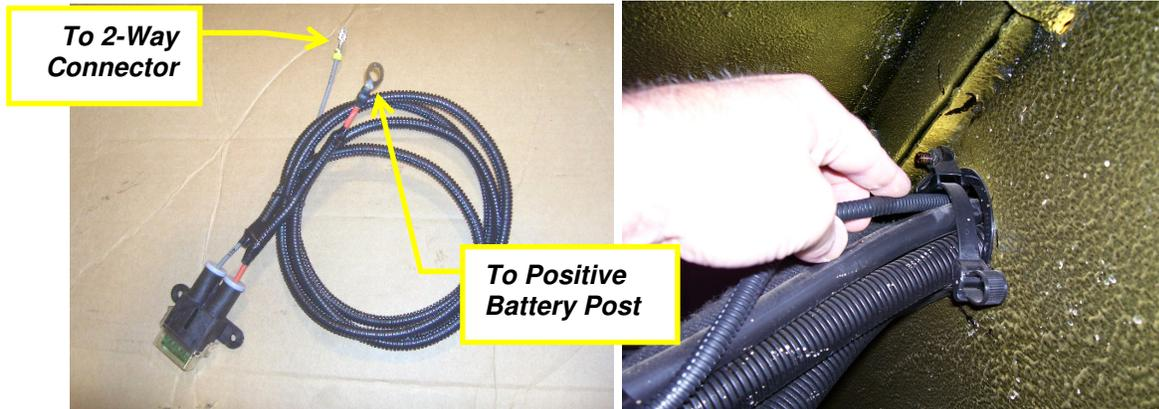

Figure 7 – New Fuse Harness (PN 2591029C1)
19. Refer to harness shown in Figure 7. Insert the single wire lead in conduit with terminal end for 2-way ECU connector from the inside of the battery box through the hole in the inboard side of the battery box.